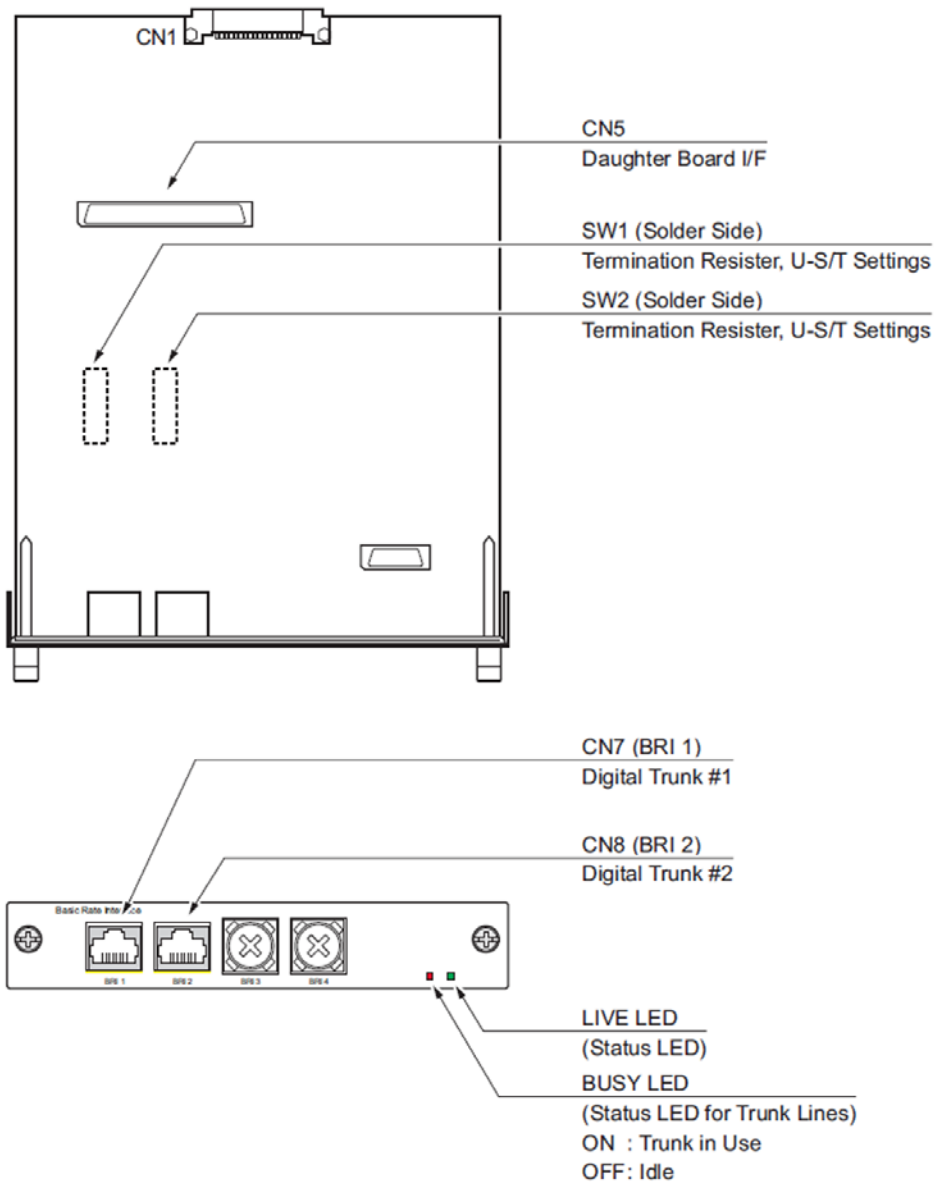

Figure 4-16 GCD-2BRIA Blade
2. Before proceeding to Step 3, wait to verify that the STATUS LED starts to flash. (Refer to Figure 4-16 GCD-2BRIA Blade on page 4-61 for the location of the LEDs on the blade.)
3. Connect the cable from the NT1 Network Termination cable to the CN7 or CN8 connector on the GCD-2BRIA blade and/or PZ-2BRIA daughter board. (Refer to Figure 4-16 GCD-2BRIA Blade on page 4-61 for the location of the connectors on the blade.)
LED indications for the GCD-2BRIA are listed in Table 4-32 GCD-2BRIA LED Indications. Each LED is listed with its associated function and LED and Operational status. Refer to Figure 4-16 GCD-2BRIA Blade on page 4-61 for the location of the LEDs on the blade.
Table 4-33 GCD-2BRIA RJ-45 T-Bus Cable Connector Pin-Outs show the pin-outs for the RJ-45 cable connector for S-Bus and T-Bus connections. Refer to Figure 4-16 GCD-2BRIA Blade on page 4-61 for an illustration showing the location of the connectors on the GCD-2BRIA blade.